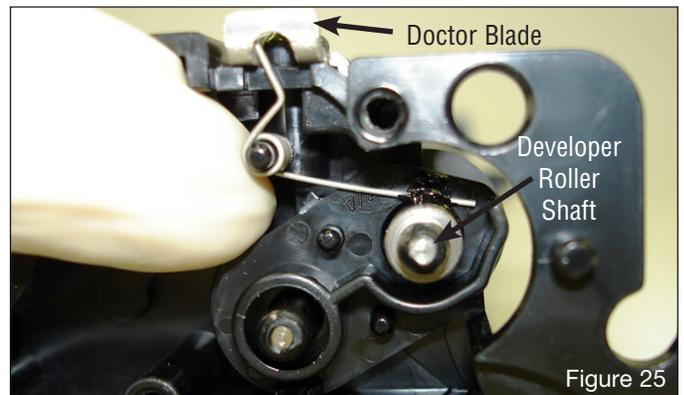

Figure 25
3. Snap the axle bearing plate back into place and apply conductive lubricant to the developer roller shaft. Reinstall the contact spring onto its center shaft. See Figure 25. Make sure that the contact spring is touching the developer roller and the doctor blade.